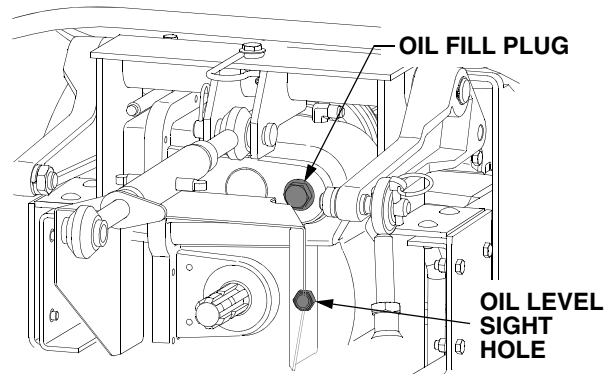
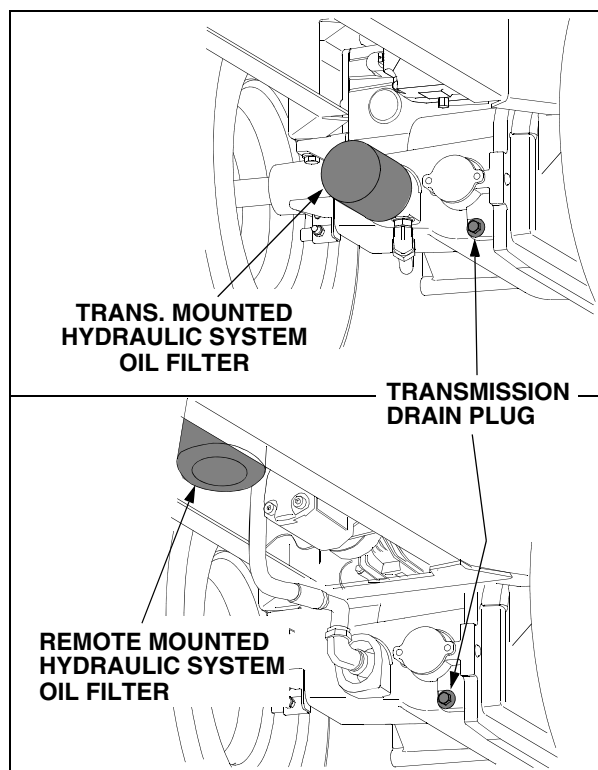

Figure 43
Figure 45
The oil level sight glass is located in the rear of the transmission housing, just to the right of the rear PTO shaft. Refer to Figure 43.
- Locate the oil fill plug on the upper right of the rear of the transmission housing. See Figure 43.
- The hydraulic system oil filter is either mounted horizontally on the front of the transmission housing, or is remotely mounted in the vertical position between the tractor frame rails. Refer to Figure 45.
- Position a suitable container below the hydraulic system filter. See Figure 45.
- Clean the area around the transmission fill plug to prevent debris from entering the transmission (Refer to Figure 43) and remove the plug.
- Clean the area around the transmission drain plug and the oil fill plug to prevent debris from entering the transmission. Refer to Figure 43 and Figure 45.
- Remove the oil fill plug to help vent the transmission, then remove the drain plug and allow the transmission oil to drain into the container(s). Reinstall the drain plug after draining the oil. Refer to Figure 43 and Figure 45.